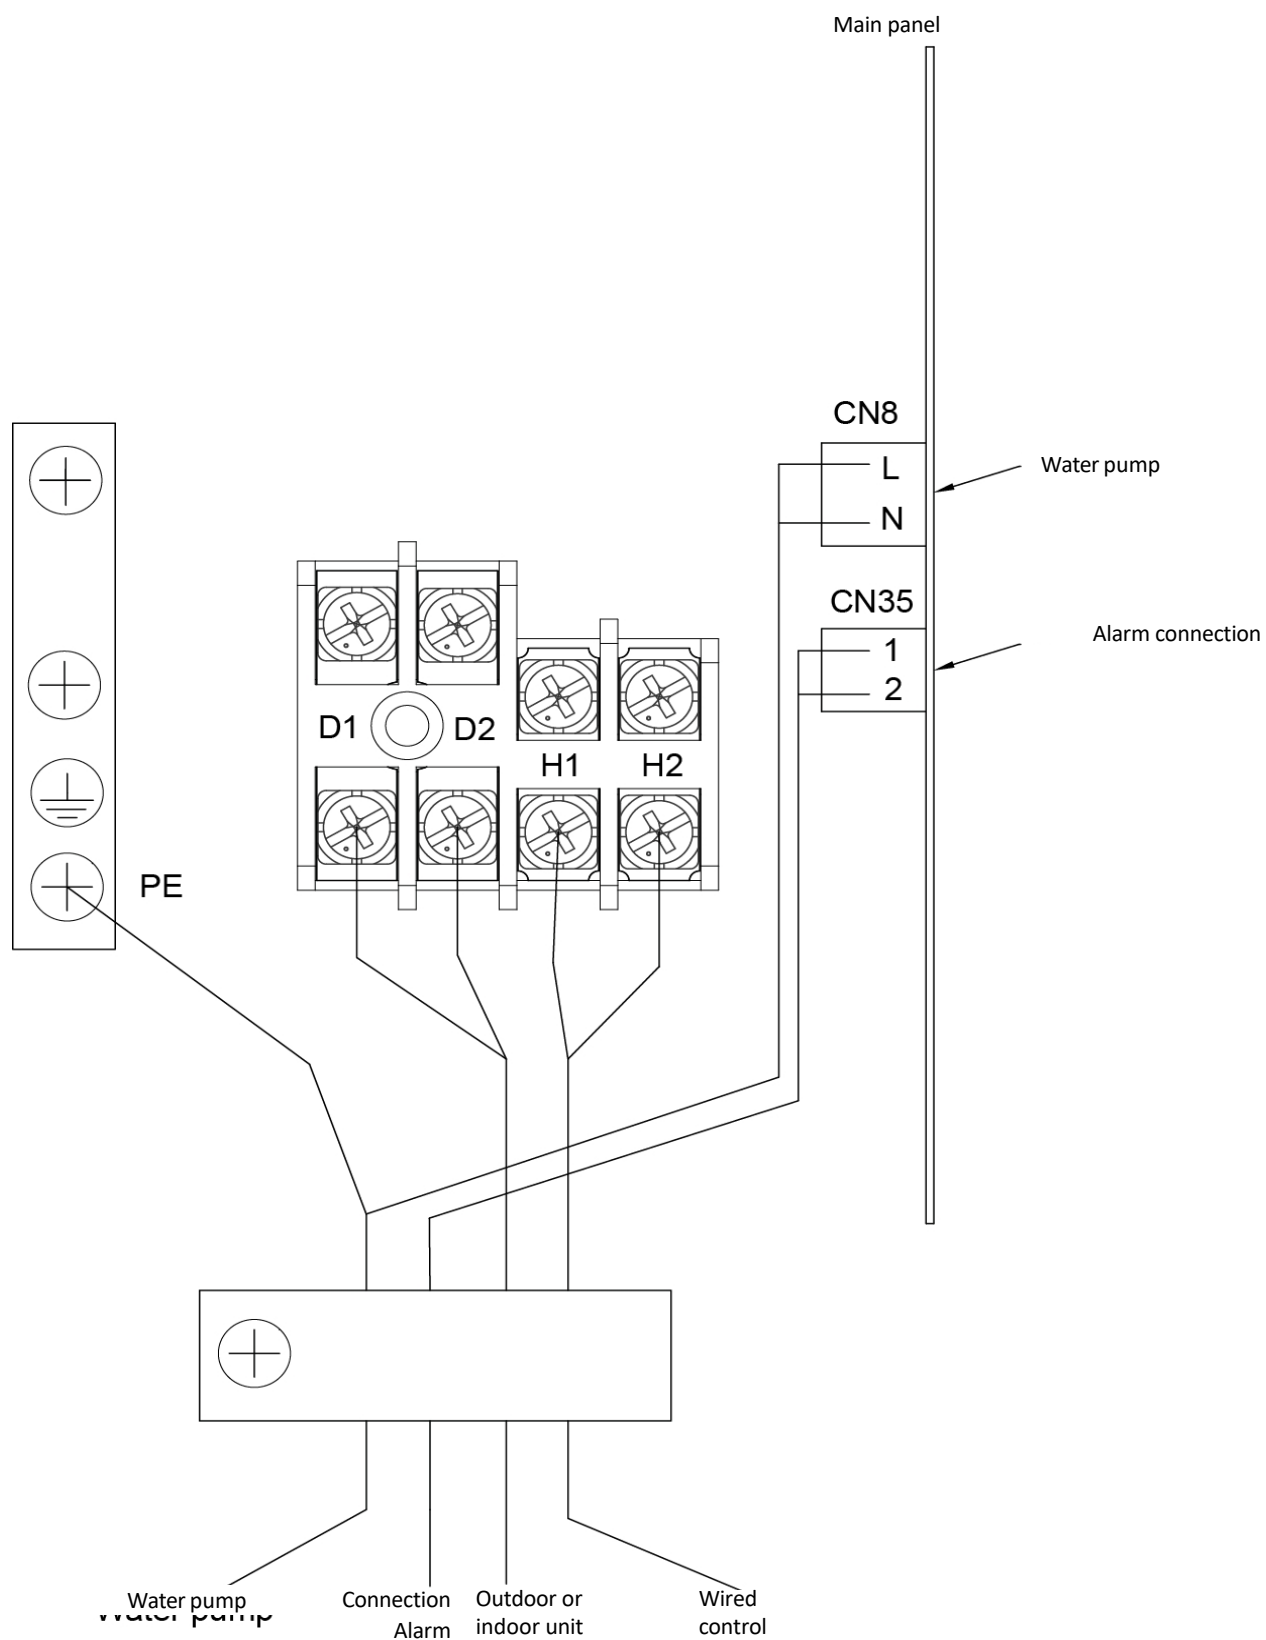

Fig. 5.7
- 3 Connect the power cable from the external water pump to terminals L and N on terminal block CN8 on the main panel; connect the alarm wire to terminals 1 and 2 on terminal block CN35 (see Fig. 5.7).